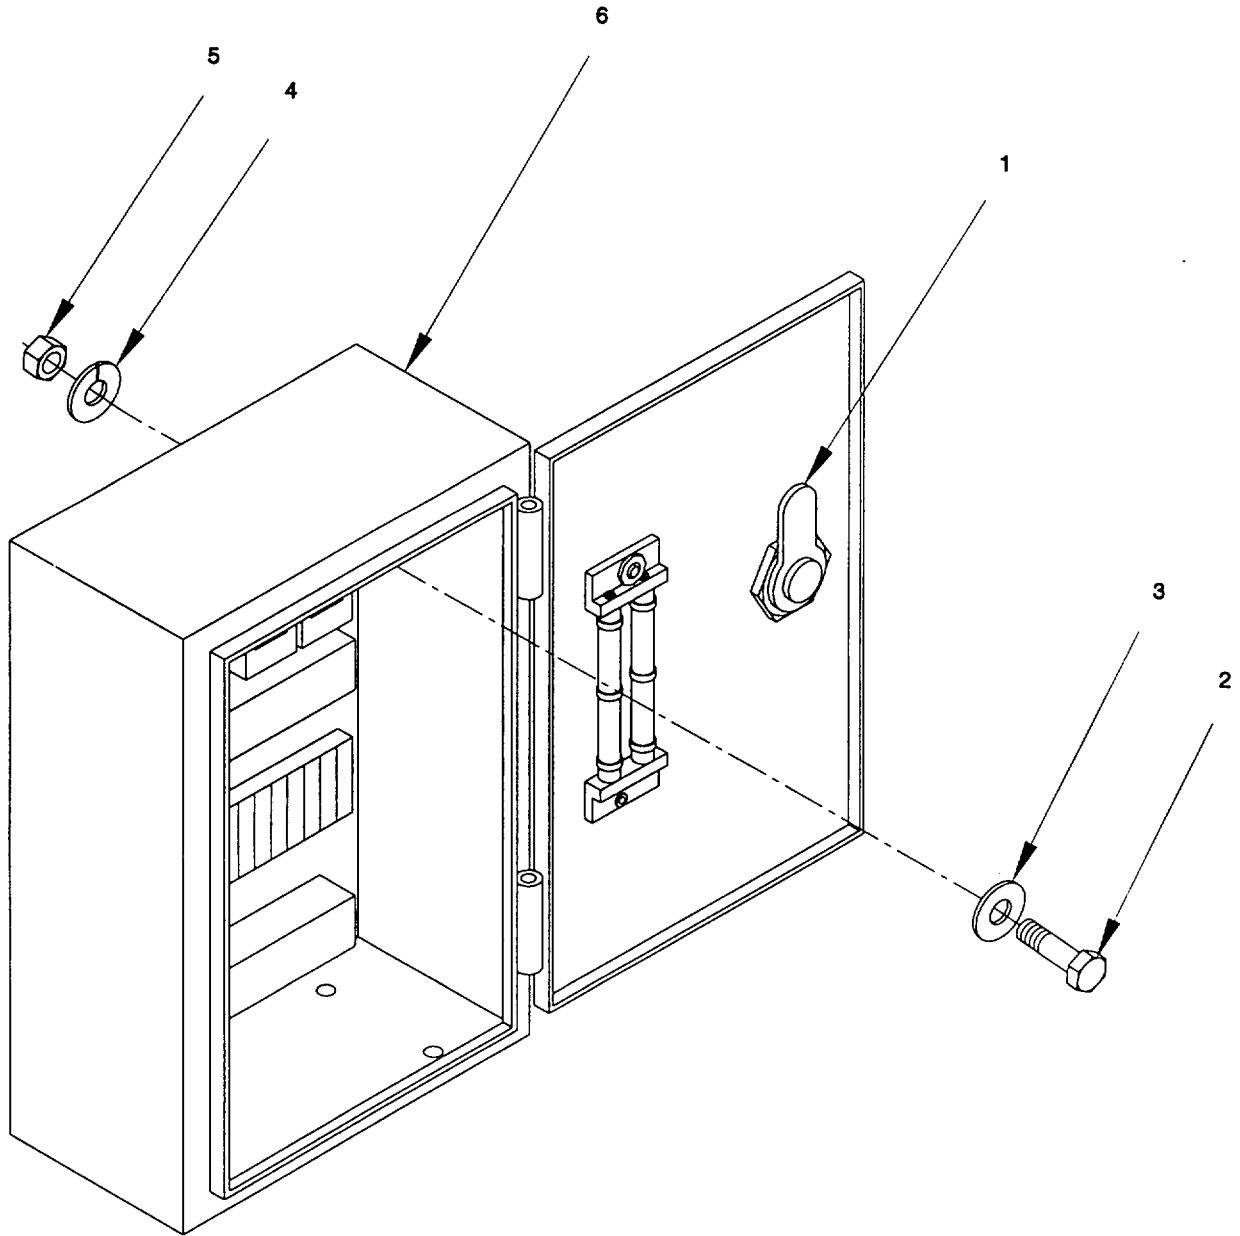

Figure 2-73. Pump-Jet Junction Box "A2", Remove/Install.
a. Remove. (figure 2-73)
- (1) Turn door latch (1) 90° and open door to junction box (6).
- (2) Disconnect and tag all wiring to the pump-jet junction box. Refer to Appendix G.
- (3) Remove four capscrews (2), four flat washers (3), four lock washers (4) and four nuts (5) securing junction box (6) to hull. Remove junction box (6).
- (1) Visually inspect all junction box components for corrosion, damage, and loose, frayed or broken electrical wiring.
- (2) Check that door and door latch moves freely. Tighten any loose components.
c. Install. (figure 2-73)
- (1) Position junction box A2 (6) and secure to hull with four capscrews (2), four flat washers (3), four lock washers (4) and four nuts (5).
- (2) Connect all wiring to the pump-jet junction box. Refer to Appendix G.
- (3) Close door to junction box. Turn door latch (1) 90° to hold door closed.